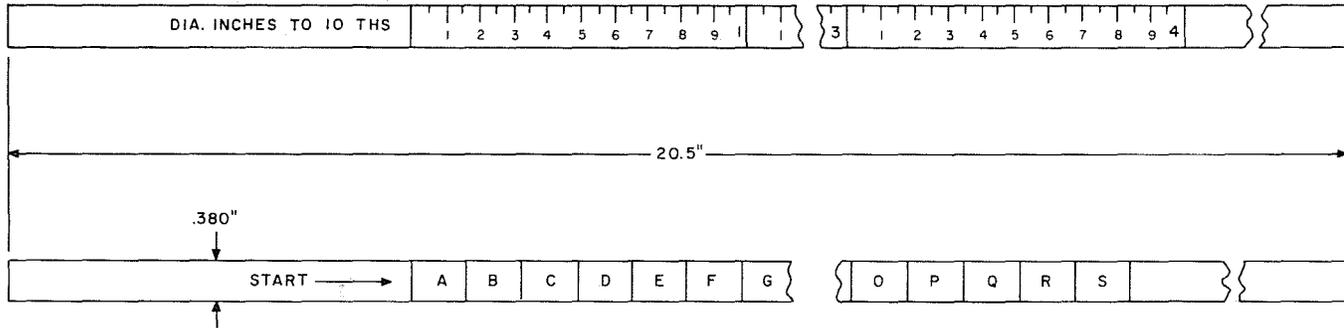

Fig. 4—B Measuring Tape
3.03 Measure the cable diameter with the B measuring tape (Fig. 4) and then using